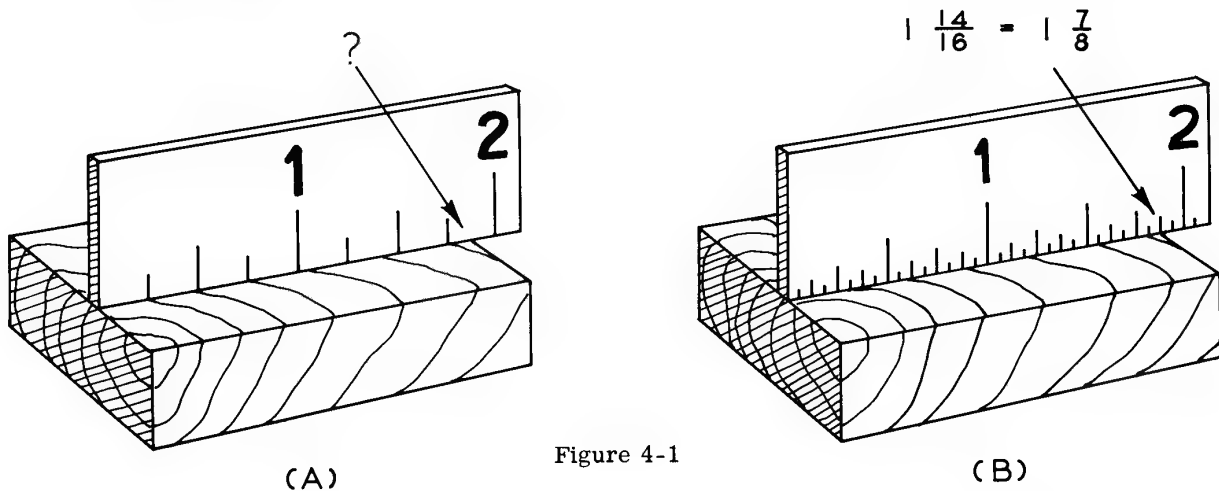

Figure 4-1
Before accurate measurements of any kind can be taken from the object under consideration, the limitations of the measuring device must be known. For example, in Figure 4-1, the more graduations the ruler has, the more accurate will be the reading obtained from the ruler.
We can see that using the ruler in Figure 4-1 (A) results in a guess compared to ruler (B). The ruler in (A) is still better than no ruler at all and, knowing its limitations, it can be a very useful measuring device.